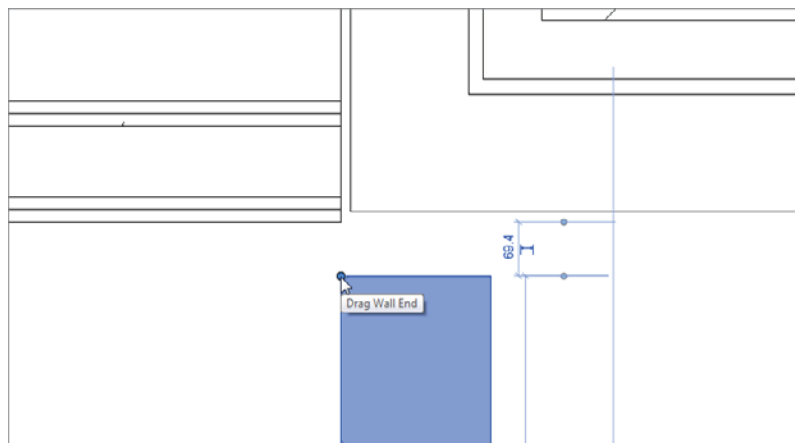

FIGURE 2.59 Pick the blue grip, and drag the CMU wall out of the exterior wall.
1. Zoom in on the right side of the elevator shaft at the intersection of the exterior wall, as shown in Figure 2.59.
2. Select the east CMU wall, and drag it out of the exterior wall by picking and dragging the blue grip at the end of the wall (see Figure 2.59).